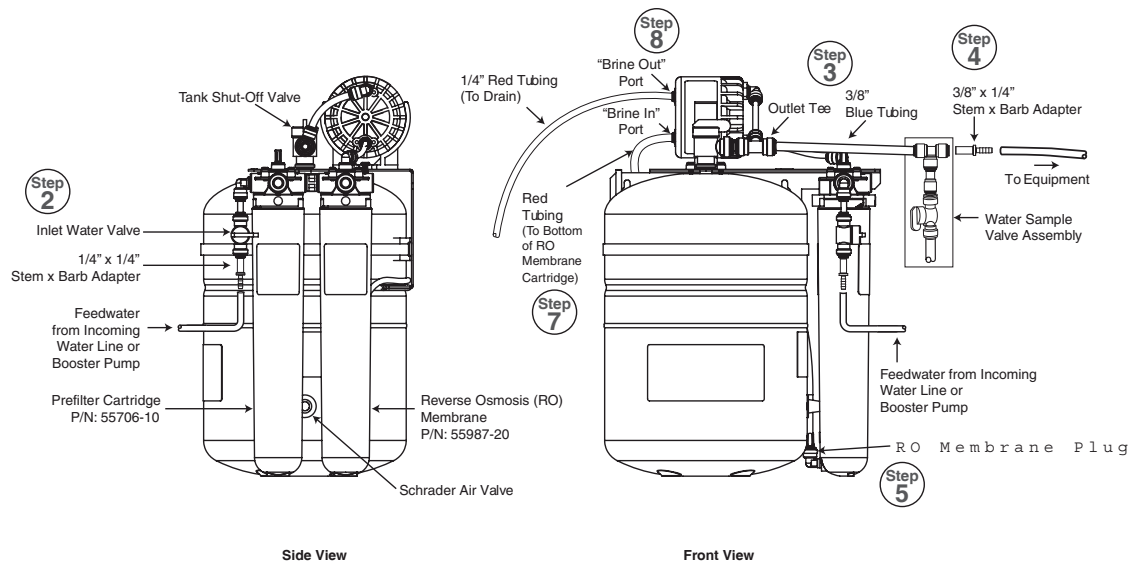

Figure 1
- 1 WATER SAMPLE VALVE ASSEMBLY (SEE FIGURE 1)
Note: The ScaleGard LP Reverse Osmosis Water Filtration System requires a minimum 50 psi inlet water pressure. If inlet water pressure is less than 50 psi, a water booster pump may be required. Refer to Figure 1 for proper tubing connections.
- 2) Insert the 1/4" x 1/4" Stem X Barb Adapter (See Figure 1) into Inlet Water Valve. Run a 1/4" I.D. hose from the Water Supply or Booster Pump to the Inlet Water Valve.
- 3) Insert one end of the 3/8" blue tubing (included) into one end of the outlet tee on the RO system and the other end to one side of the Water Sample Valve Assembly. See Figure 1.
- 4) Insert the 3/8" x 1/4" Stem x Barb adapter into the open 3/8" port of the sample valve assembly. Run a 1/4" I.D. hose from the water sample valve assembly to the inlet of the Foodservice Equipment. See Figure 1.
1. Close tank shut-off and inlet valves (see Fig. 1).
8. Open tank shut-off and inlet valves (see Fig. 1).